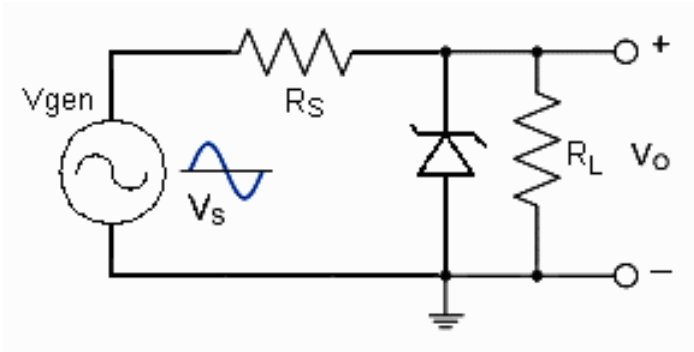

Figure 2 Zener Clipper Circuit
- Construct the clipper circuit in Figure 2.